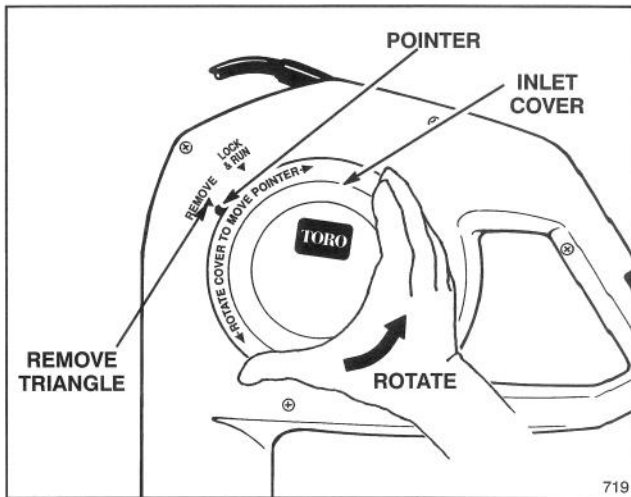

Figure 4
2. Rotate inlet cover counterclockwise with some extra force until you hear a “snap.” The black pointer on inlet cover must line up with the “REMOVE” triangle on the housing (Fig. 4).